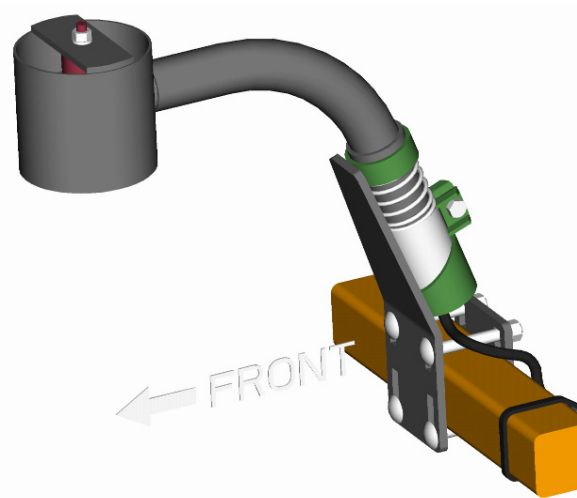

Figure 7 – Another Acceptable Mounting
3. The sensor mounting brackets can be installed with the mounting base behind (**Figure 9**) or in front of the tube (**Figure 7**).
4. Mount the NORAC UC4+ ultrasonic sensor (E02) into the sensor brackets. The sensors should be oriented forward (ahead) of the boom (see **Figure 7** and **Figure 9**).
- Sensor cables should run through the mounting bracket tube and then behind the member the bracket is mounted onto. Cable-tie the connector in place. The cable must not be allowed to hang below the boom (Figure 7).